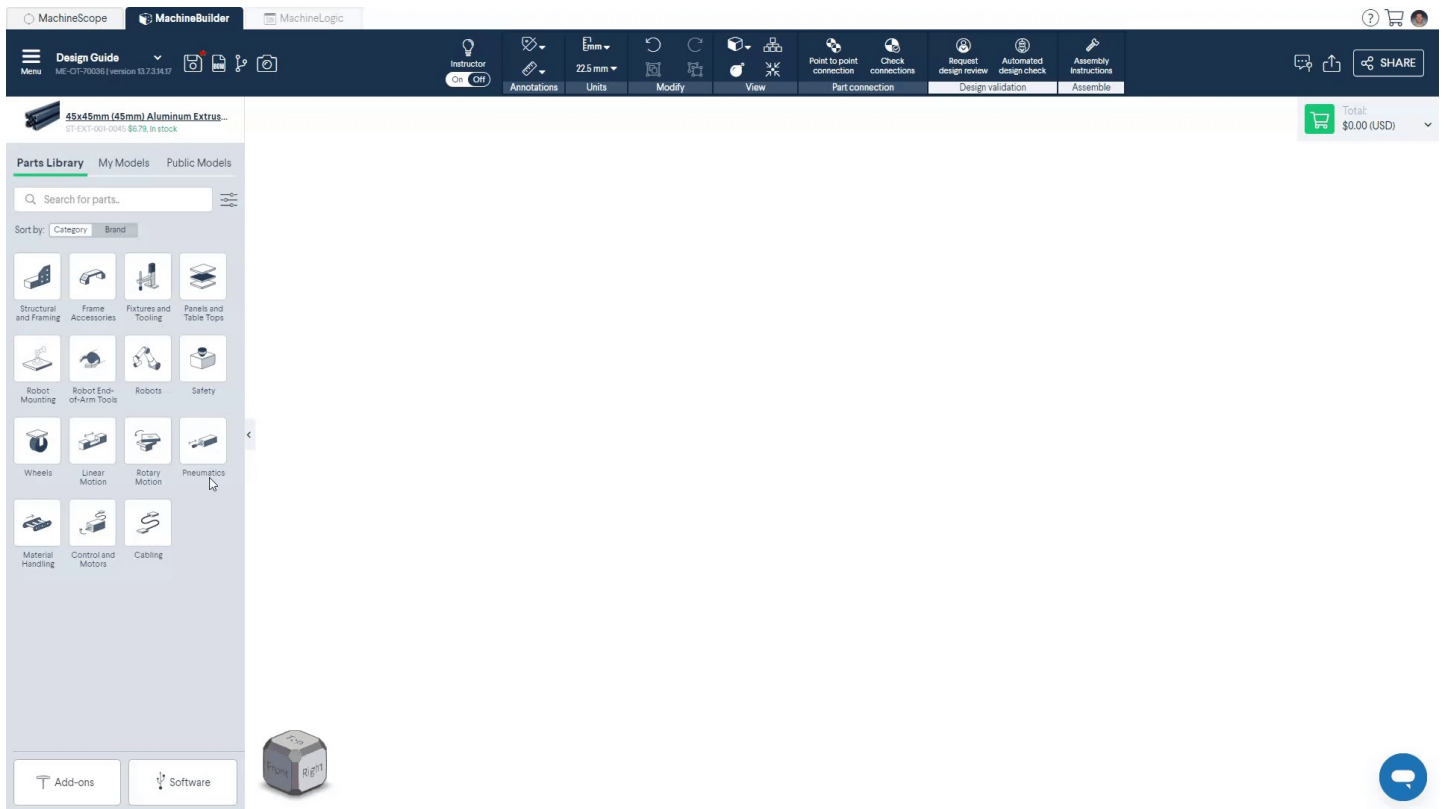

Figure 1: Configuration assistant
2. In order to simulate, ensure you have added at least the following components into the MachineBuilder (refer to figure 1 or 2):